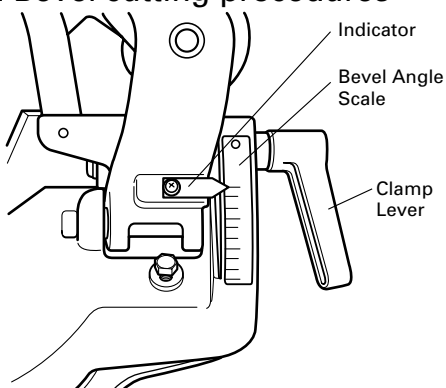

Fig. 19
- (1) Loosen the clamp lever and bevel the saw blade to the left.
- (2) Adjust the bevel angle to the desired setting while watching the bevel angle scale and indicator, then secure the clamp lever (Fig. 19).